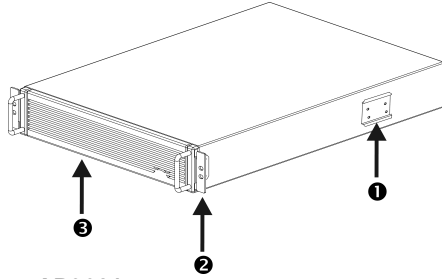

Figure 2: AP9621
**Mounting Flanges 2:** Two mounting flanges (Figure 2 and 4) secure the Step-Down Transformer in the rack.